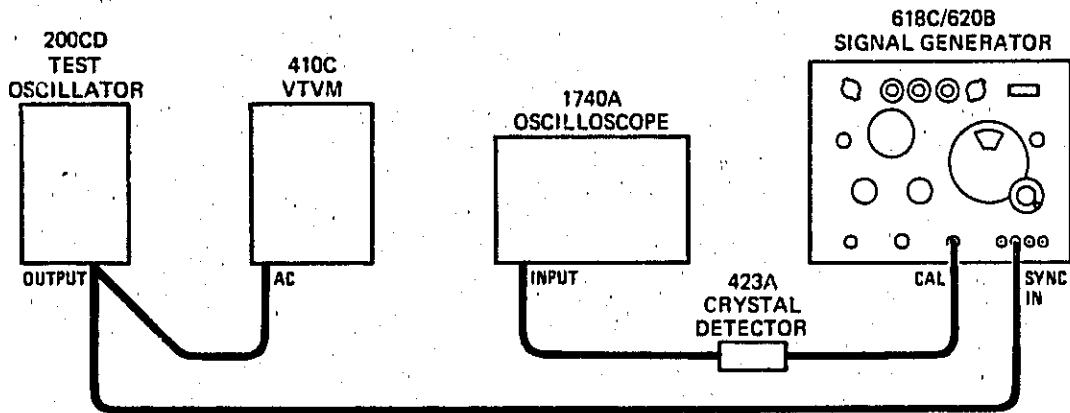

Figure 5-6. Setup for Testing External Sine-Wave Synchronization
a. Connect Signal Generator in test setup shown in Figure 5-6, but replace Oscillator with Model 214B Pulse Generator.